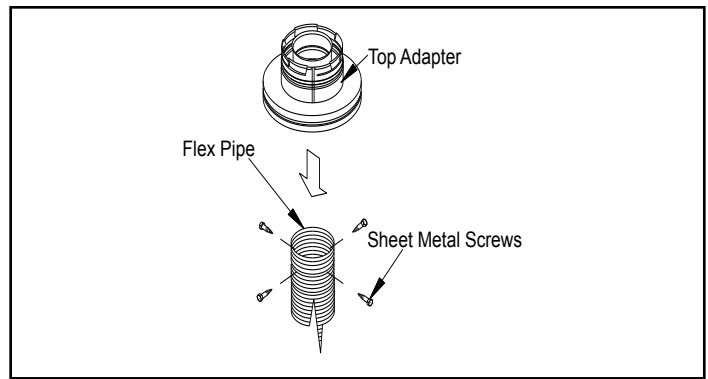

Figure 4.13
3. Connect the end of the flex pipe section to the underside of the top adaptor, using four sheet metal screws. See Figure 4.13.
5. Connect the flex liner to the top adapter using three sheet metal screws. See Figure 4.13.